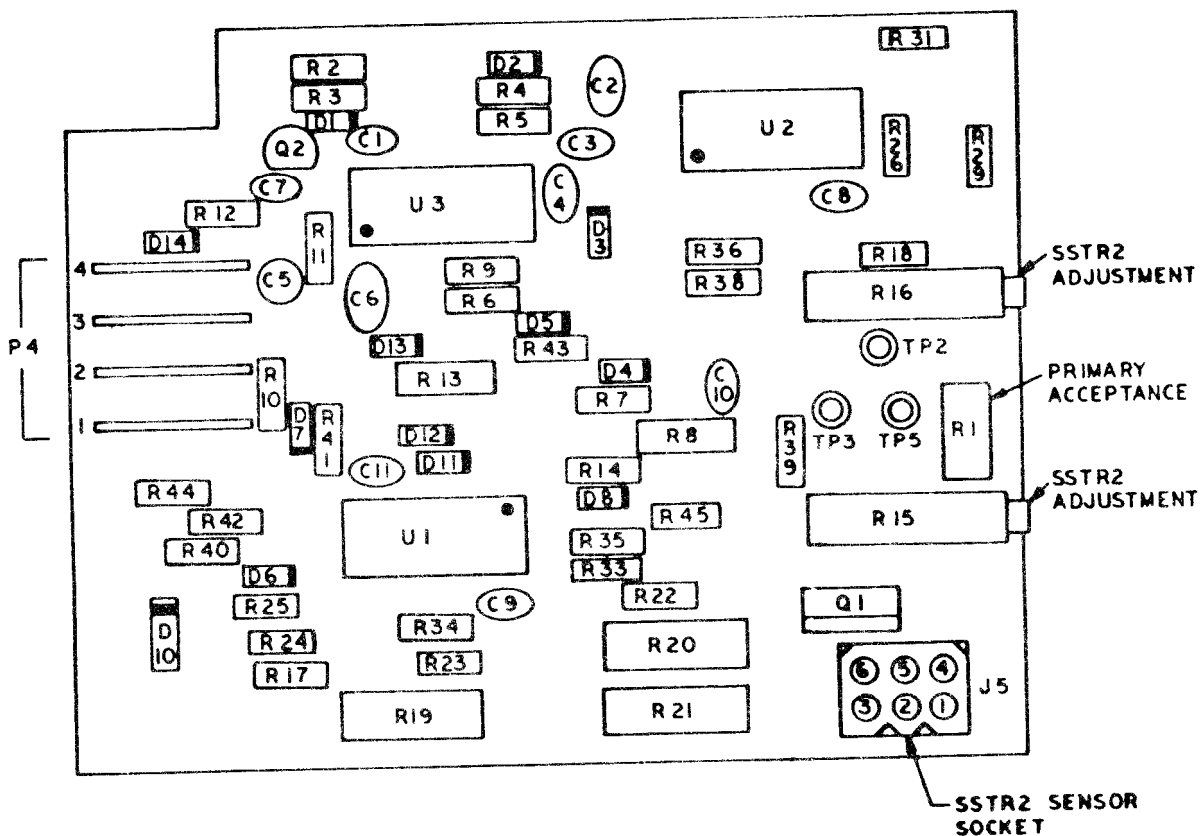

Figure 3
Adjustment of the primary detection system is made by turning the primary acceptance control, R1, which is located on the amplifier module board (Figure 3).
1. Disable the Secondary Detection System by unplugging the SSTR2 sensor, plug J5 (Figure 3).
The secondary detection system adjustments, R15 and R16, are also located on the amplifier module board (Figure 3).
Secondary detection system in note acceptor out of adjustment.	Disconnect sensor plug J5 (Figure 3). Test unit. If unit accepts bills, adjust secondary detection system (Page 9).
Secondary detection system out of adjustment.	Disconnect sensor plug J5 (Figure 3). Test unit. If acceptance is good, adjust secondary system (Page 9).